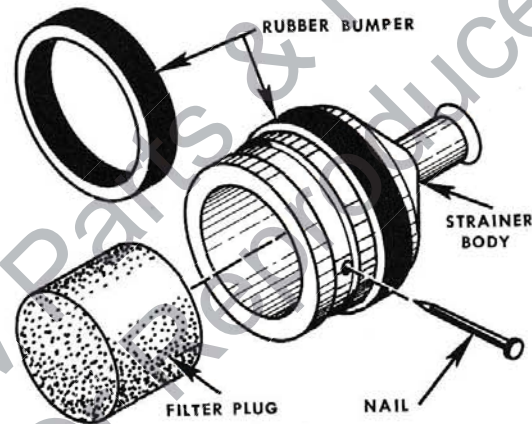

Figure 15—Changing Fuel Filter in Fuel Tank
(2) CHANGING FUEL FILTERS (See Figure 15)